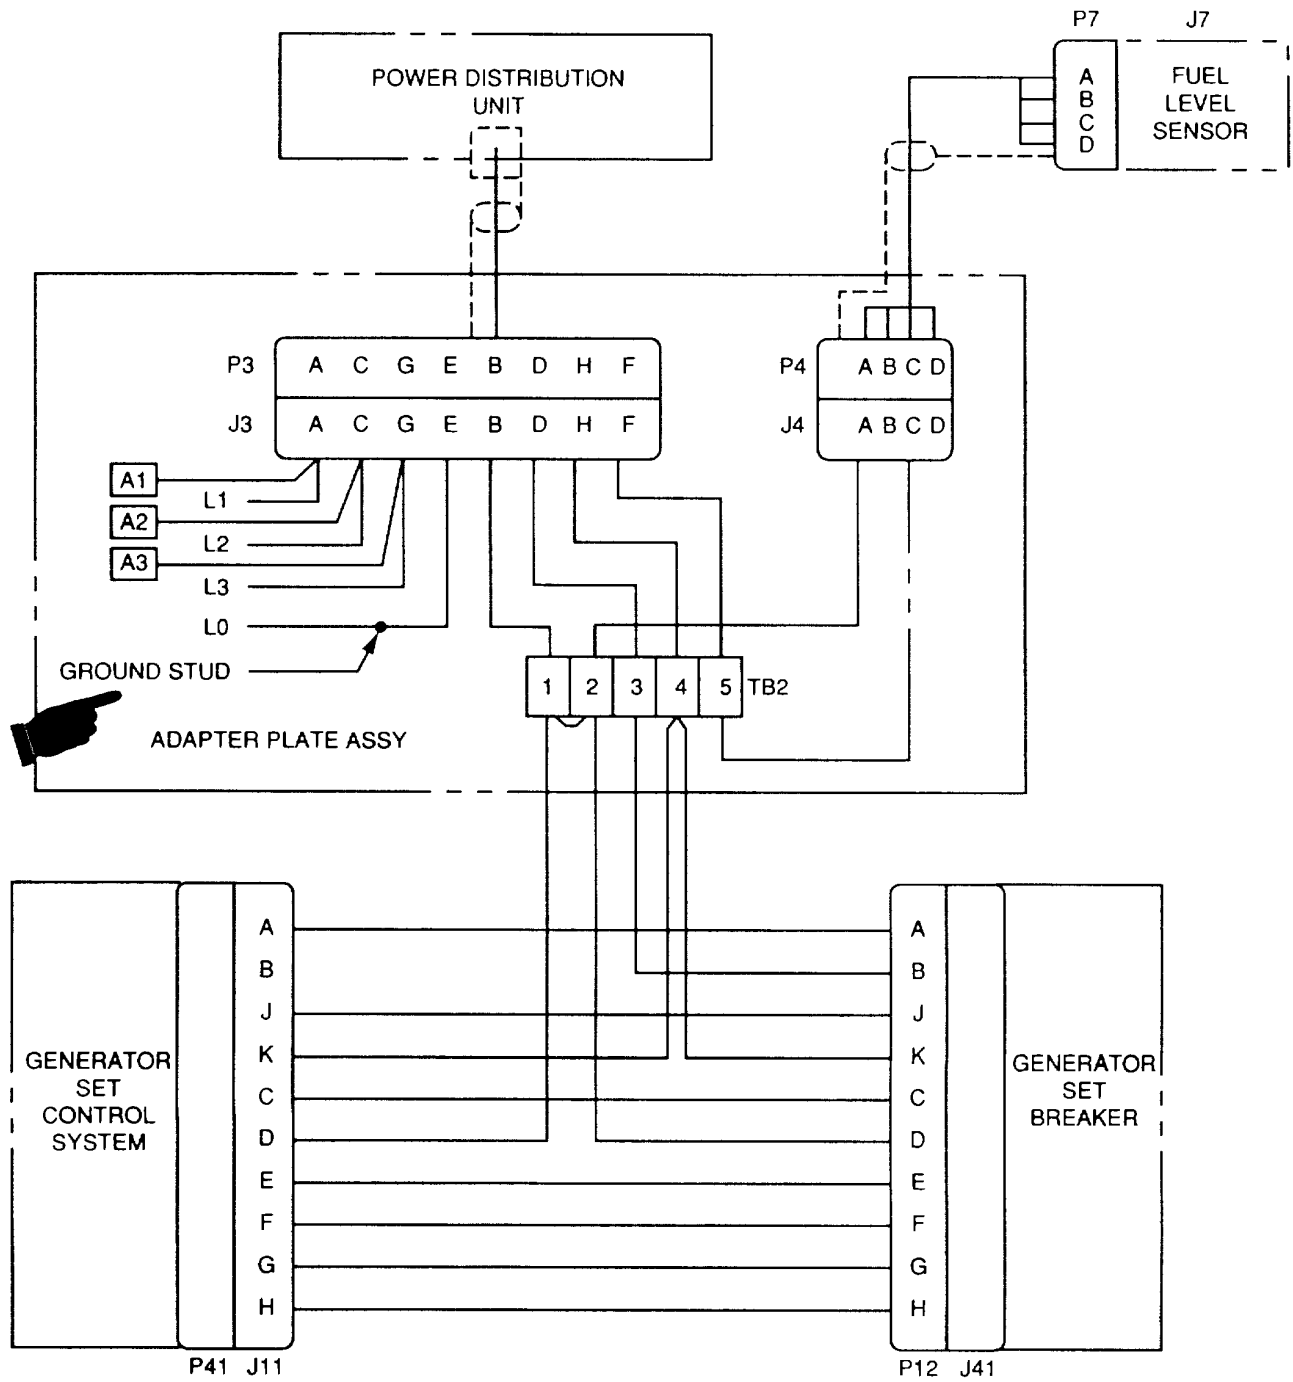

Figure 4-3. Adapter Plate Assembly Wiring Diagram.
4-17. **Adapter Plate Assembly Testing.** Continuity testing is used to detect faults in the wiring harnesses, surge protectors, and cables associated with the adapter plate assembly. When performing continuity tests, refer to the wiring diagram, figure 4-3, for harness and cable routing information.
- a. **J3 Wining Harness Testing.** (See figure 4-3.). Wiring harness J3 runs from connector P3 on the adapter plate assembly to the generator set load terminals and to terminal board TB2 on the adapter plate assembly.
- (1) Set multimeter for continuity testing.
- (2) Disconnect P3 cable connector from J3 connector.
- (3) Touch one multimeter test probe to connector J3 contact A and touch remaining test probe to load terminal LI on the generator set. Multimeter must indicate continuity. If it doesn't, there is an open in connector or associated wire.
- (4) Repeat step (3) for each remaining wire in wiring harness. Refer to figure 4-3 for correct ongoing and destination of each wire.
- (5) Disconnect the wire from L1. Touch one multimeter test probe to connector J3 contact A and touch the remaining test probe to J3 contact E. Multimeter must indicate resistance of infinity. If it doesn't there is a short in the surge protector.
- (6) Disconnect the wire from L2. Touch one multimeter test probe to connector J3 contact C and touch the remaining test probe to J3 contact E. Multimeter must indicate resistance of infinity. If it doesn't, there is a short in the surge protector.
- (7) Disconnect the wire from L3. Touch one multimeter test probe to connector J3 contact G and touch the remaining test probe to J3 contact E. Multimeter must indicate resistance of infinity. If it doesn't, there is a short in the surge protector.
- (8) If an open is detected in wiring harness, or a short is detected in a surge protector, replace the adapter plate assembly (paragraph 4-18) or notify higher level of maintenance for repair.
- b. **J4 Wining Harness Testing.** (See figure 4-3.). Wiring harness J4 runs from connector P4 on the adapter plate assembly to terminal board TB2.
- (1) Set multimeter controls for continuity testing.
- (2) Disconnect P4 cable connector from J4 connector.
- (3) Touch one multimeter test probe to connector J4 contact A and touch remaining probe to TB2 terminal 2. Multimeter must indicate continuity. If it doesn't there is an open in connector or associated wire.
- (4) Touch one multimeter test probe to connector J4 contact C and touch second probe to TB2 terminal 5. Multimeter must indicate continuity. If it doesn't there is an open in connector or wire.
- (5) If an open is detected in wiring harness, replace adapter plate assembly (paragraph 4-18) or notify higher level of maintenance for repair.
- c. **P12, J11 Wiring Harness Testing.** (See figure 4-3.) Wiring harness P12, J11 runs between P41 and J41 on the generator set control system and circuit breaker and TB2 on the adapter plate assembly.
- (2) Disconnect connectors P12 and J11 from generator set.
- (3) Check each wire in harness by touching one multimeter test probe to each contact on connector J1 1 or P12 and touching second probe to its associated contact on opposite connector or on TB2, as applicable. Refer to figure 4-3 for the correct origin and destination of each wire.
- (4) If multimeter does not indicate continuity for each wire in harness, replace wiring harness or notify higher level of maintenance for repair.
- (5) If replacement is required, disconnect wires from terminal board TB2 on adapter plate assembly Refer to figure 4-3 when installing repaired or replacement wiring harness.
- d. **P4, P7 Low Fuel Cable Testing.** (See figure 4-3) Low fuel cable P4, P7 runs from connector J4 on the adapter plate assembly to fuel level sensor J7 on the fuel tank.
- (2) Disconnect cable from adapter plate assembly and fuel tank.
- (3) Touch one multimeter test probe to connector P4 contact A and touch remaining probe to connector P7. contact A Multimeter must indicate continuity If it doesn't, there is an open in one or both connectors or in wire.
- (4) With first probe still touching connector P4 contact A, touch second probe to P7 contacts B, C, and D In each of these positions, multimeter should not indicate continuity If it does, cable is shorted.
- (5) Test for continuity between P4 on contact A and P4 connector housing, and between P7 contact A and P7. connector housing Multimeter should indicate no continuity in either of these positions.
- (6) Repeat steps (3) through (5) for wire between P4 contact C and P7 contact C.
- (7) If an open or short is detected in cable, replace cable or notify higher level of maintenance for repair.
- (1) Position adapter plate assembly (4) on generator set (1) and fasten with six screws (8) and six lockwashers (9).
- (2) Connect J3 wiring harness (7) to generator set load terminals. Refer to figure 4-3 for wiring information.